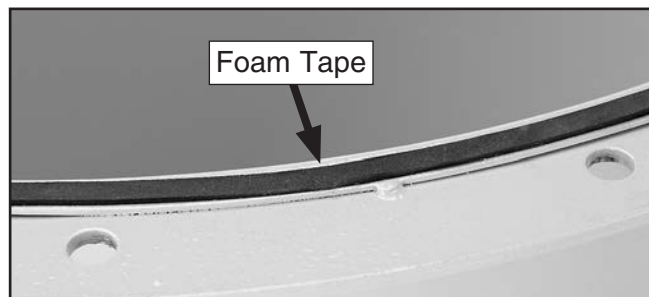

Figure 12. Foam tape applied to intake cylinder rim.
6. Place intake cylinder on floor and apply 3 x 6 x 1800mm foam tape to intake cylinder top rim, between mounting holes and inside edge (see **Figure 12**).